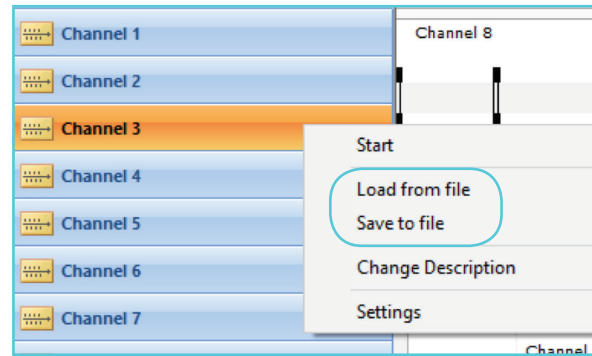

Figure 4.2.3
2. By saving a protocol for a single channel right click on the channel and press save as shown in figure 4.2.3. The file will get the file extension plc.
This file can now be loaded into any other single channel of choice by pressing Load from file (figure 4.2.3). Select a single channel file (*.plc) e.g. as shown in figure 4.2.4 the protocol 'Single-channel-test2' has been selected and loaded. The File names loaded into each channel is listed in the column File name.